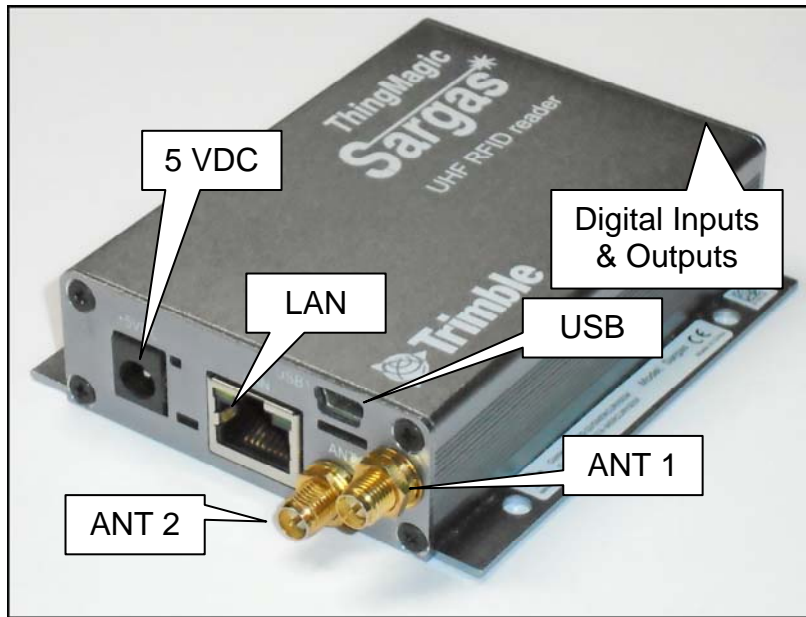

Figure 1- Sargas Railroad AEI RF Reader Module
- Attach coaxial cables from the ANT1 and ANT2 RP-SMA connectors on the reader to two antennas (see Figure 1).